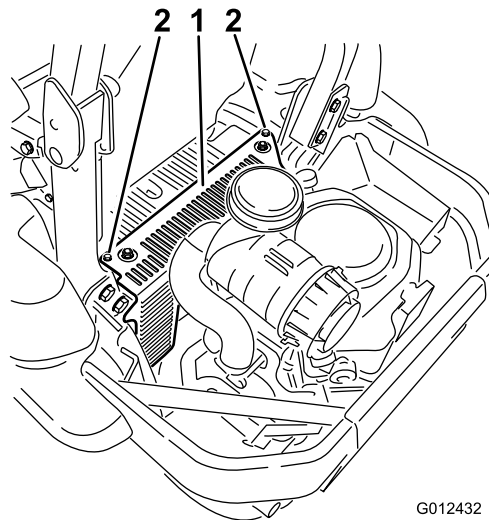

Figure 50
3. Remove the hydraulic-unit shroud and the 2 bolts attached to it (Figure 50).
5. Install the left-hand hydraulic-unit shroud (Figure 50).